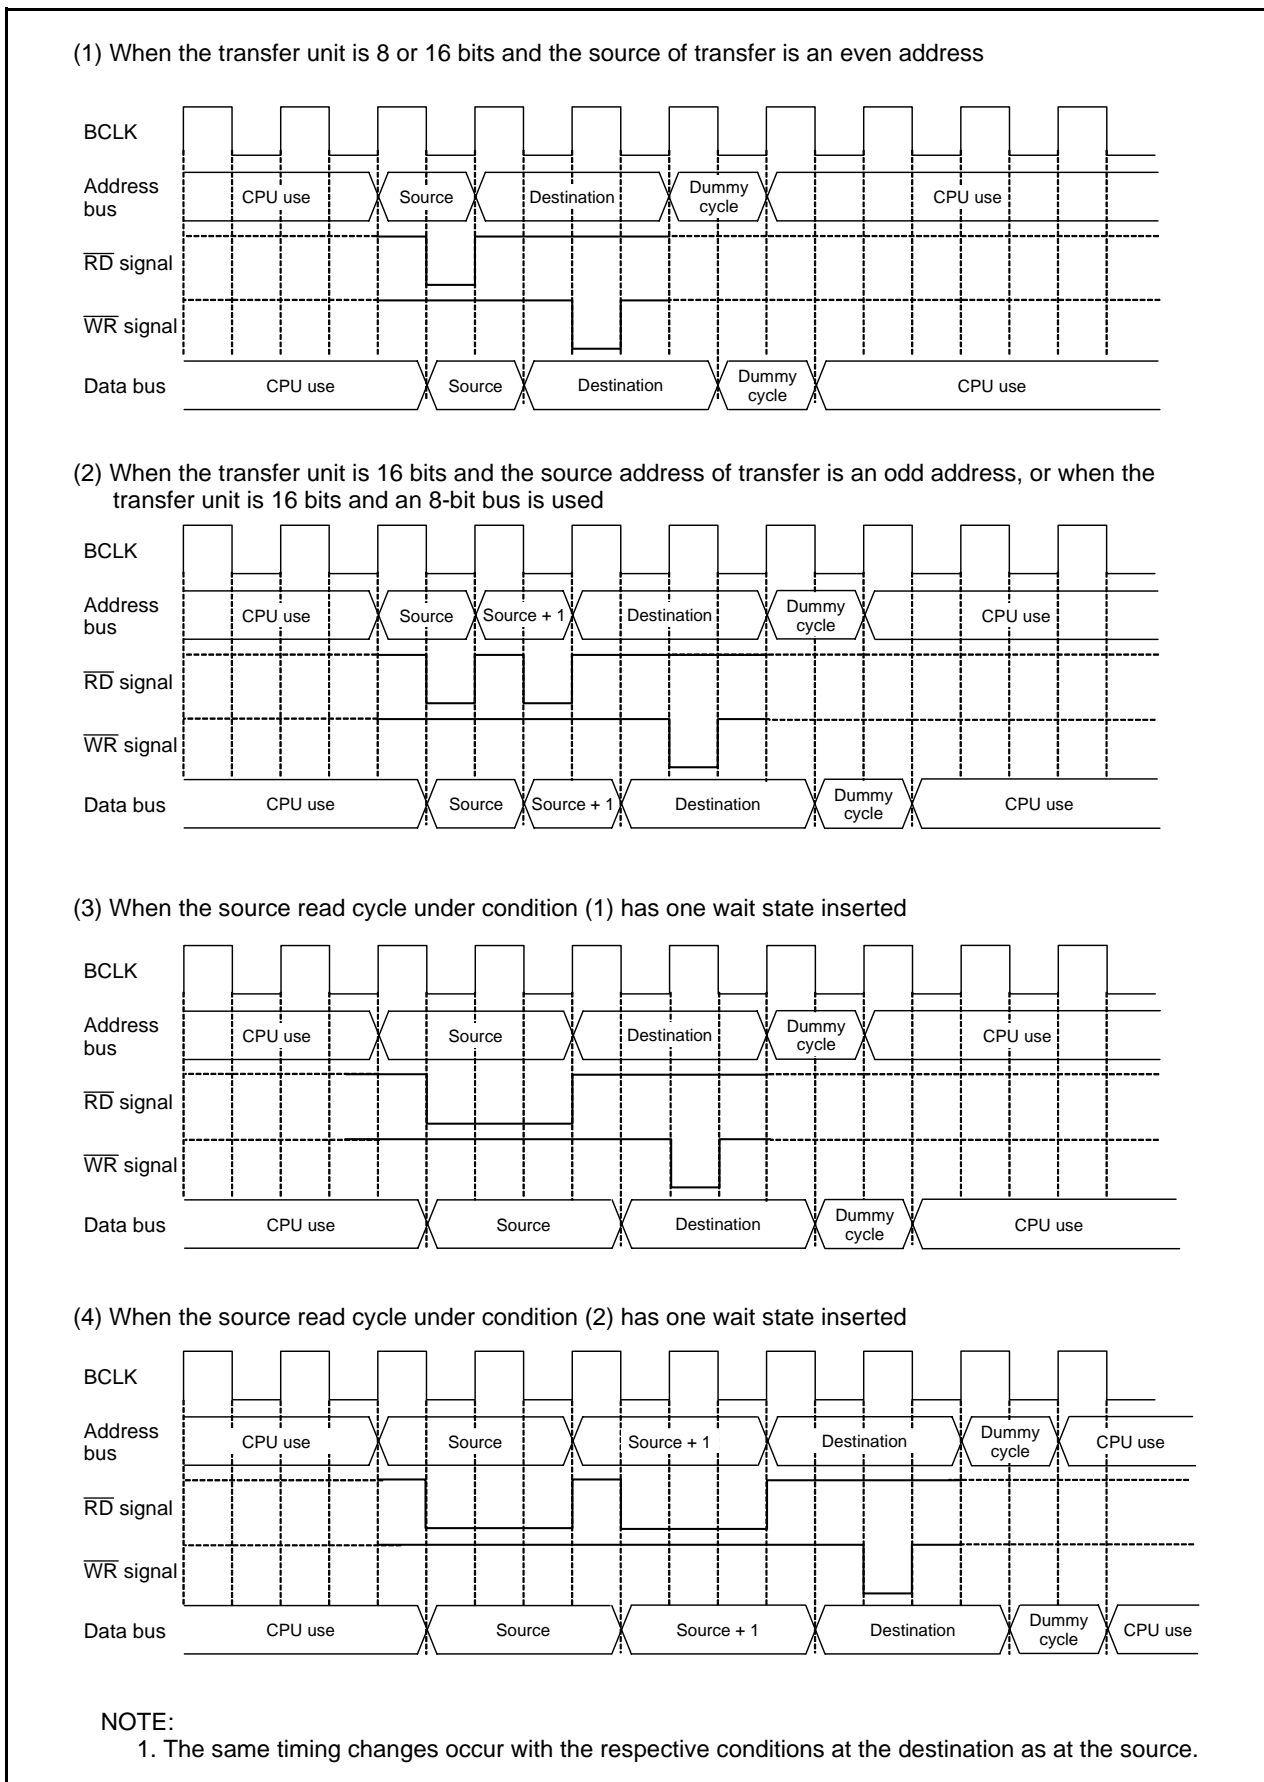

Figure 11.7 Example of Transfer Cycles for Source Read
Figure 11.7 shows an Example of Transfer Cycles for Source Read. For convenience, the destination write cycle is shown as one cycle and the source read cycles for the different conditions are shown.
In reality, the destination write cycle is subject to the same conditions as the source read cycle, with the transfer cycle changing accordingly. When calculating transfer cycles, apply each condition to the source read and the destination write cycle, respectively. For example, when data is transferred in 16-bit units using an 8-bit bus ((2) on Figure 11.7), two bus cycles are required for source read and destination write each.